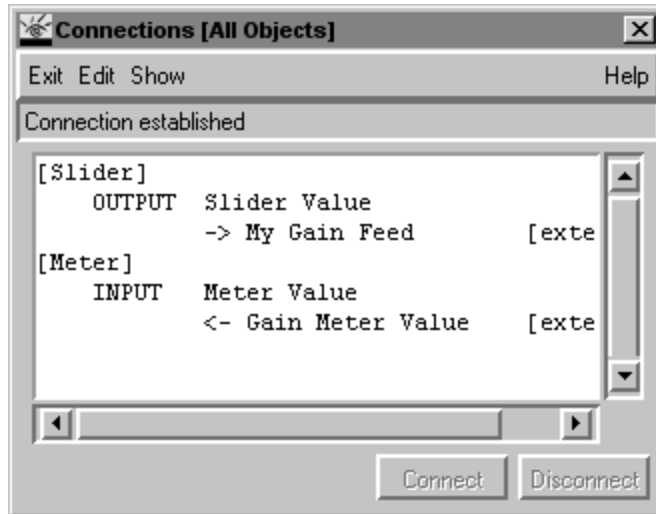

FIGURE 4-10 Connection of All Objects
10. When this is done the **Connect** button will become available. Press it to connect the slider to the external signal going to the C code (which we will write in the next section). The connections dialogs should reflect the fact that the two objects are now connected (see Figure 4-10).